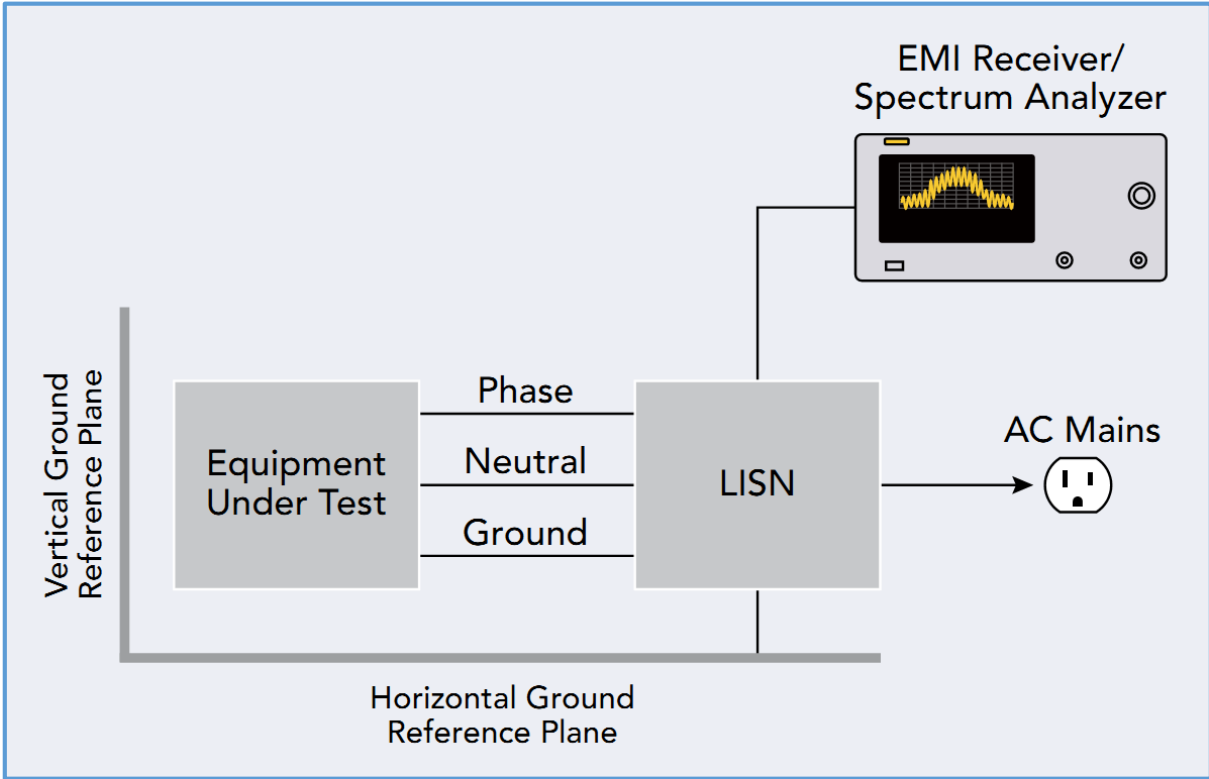

Figure 7-6: Electrical connections for conducted EMC testing.
**Figures 7-6** and **7-7** show the standard suggested electrical and physical setups for testing conducted emissions: